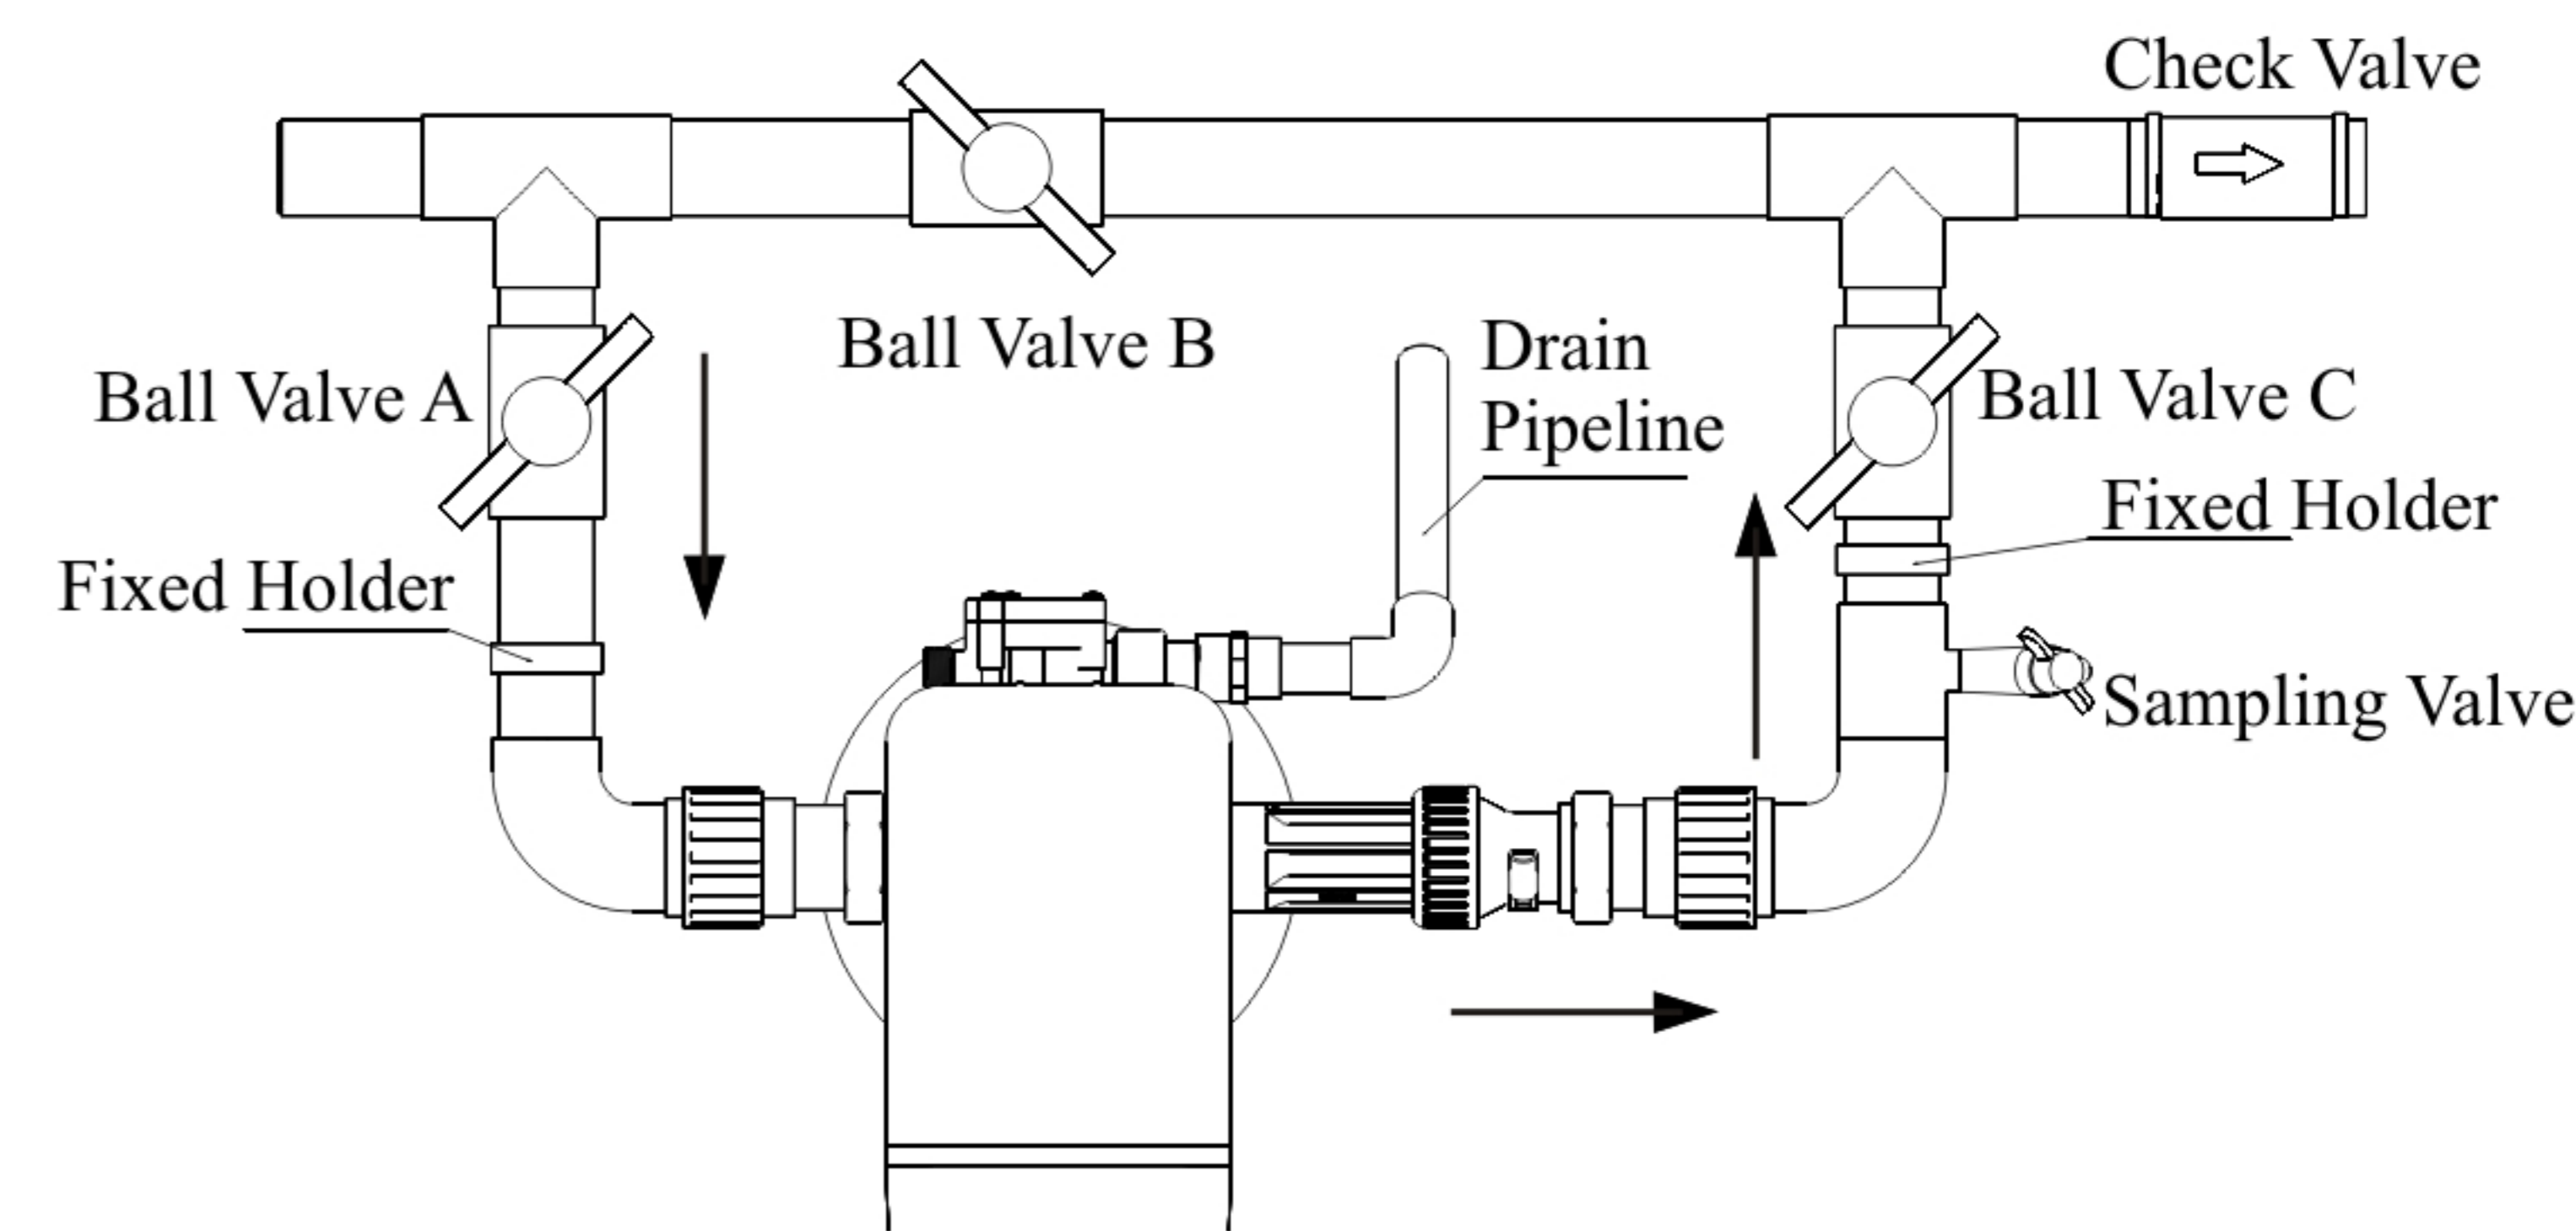

Figure 1-3
④ Pipeline connection
- a. As figure 1-3 shows, install ball valve A, B, C, sampling valve, check valve in inlet, outlet, inlet pipeline and outlet pipeline.
As figure 1-3 shows, glue the drain outlet with UPVC drain pipeline, put drain outlet pipe to sewer as showed in the Figure 1-4.